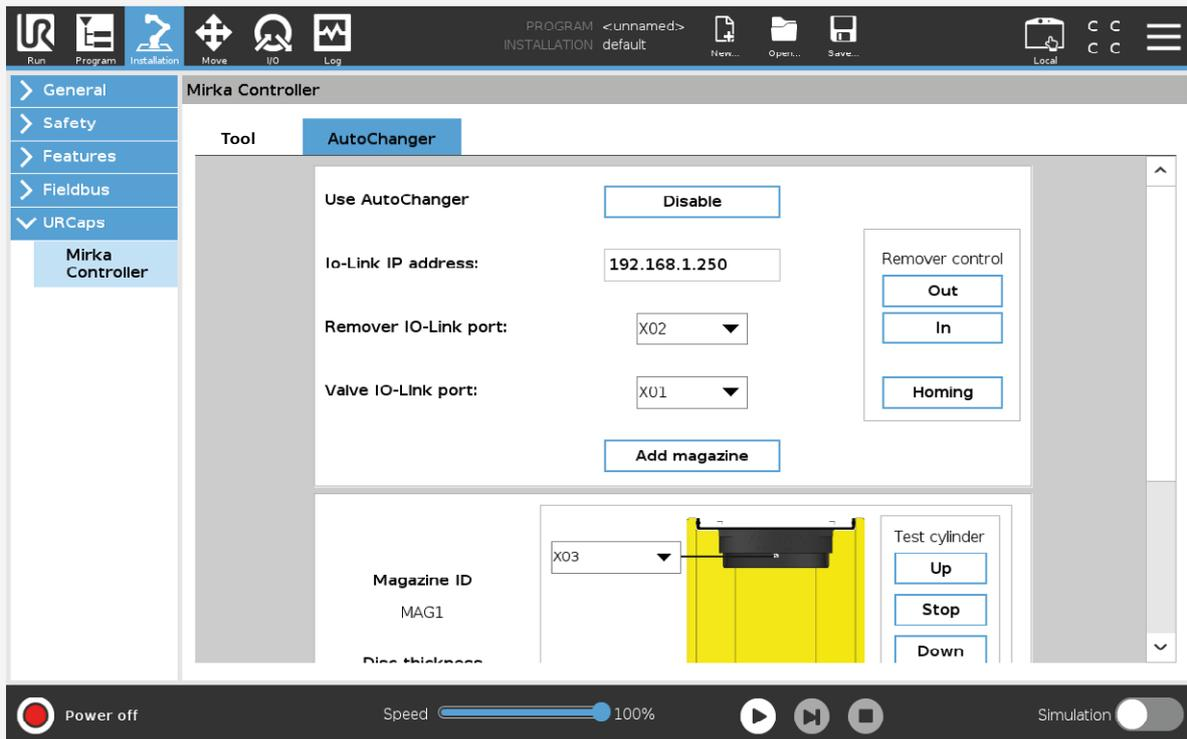

Figure 3: AutoChanger Remover and valve terminal configuration.
- a. Figure 3 "Remover IO-Link port" is the port of the linear motor controlling the Remover.
- b. Figure 3 "Valve IO-Link port" is the port of the pneumatic valve manifold.